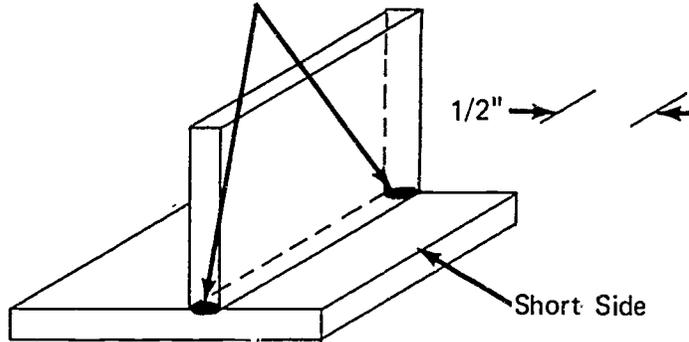

FIGURE 2
- D. Position plates to form a T-joint and tack (Figure 2)